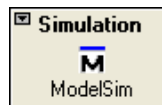

Figure 3-6. Simulation Button
2. Click the Simulation button (Figure 3-6) in the Project Manager to open the ModelSim simulator.